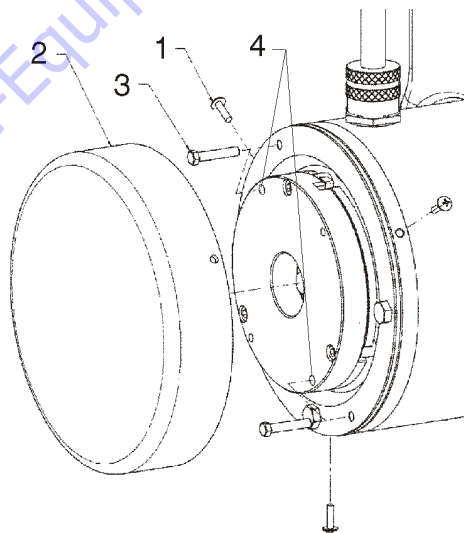

Figure 4-4. Manual Disengage
3. Remove the **three cover bolts (1)**, from the back of drive motor unit.
4. Remove **brake cover (2)**.
5. Locate the **2 disengage bolts (3)** that are stored in the motor end cap. Remove bolts and insert them into the **two disengage holes (4)** in the brake housing, see Item 4 in Figure 4-4., Manual Disengage.
8. After towing is complete, chock wheels and remove **2 disengage bolts (3)** from **disengage holes (4)**. Insert bolts back into original holes in motor end cap.
9. Reinstall **cover (2)**.